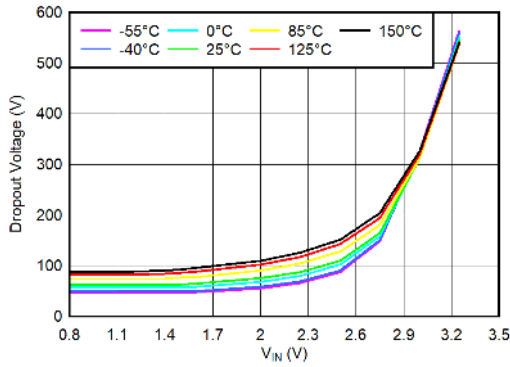

Figure 6-29. V_{IN} Dropout Voltage vs V_{IN} and Temperature (T_J) for I_{OUT} = 1.5 A
- (1) Adjustable devices tested at 0.8 V; resistor tolerance is not taken into account.
(2) Dropout is defined as the voltage from V_{IN} to V_{OUT} when V_{OUT} is 3% below nominal.
(3) 3.25 V is a test condition of this device and can be adjusted by referring to Figure 6-29.